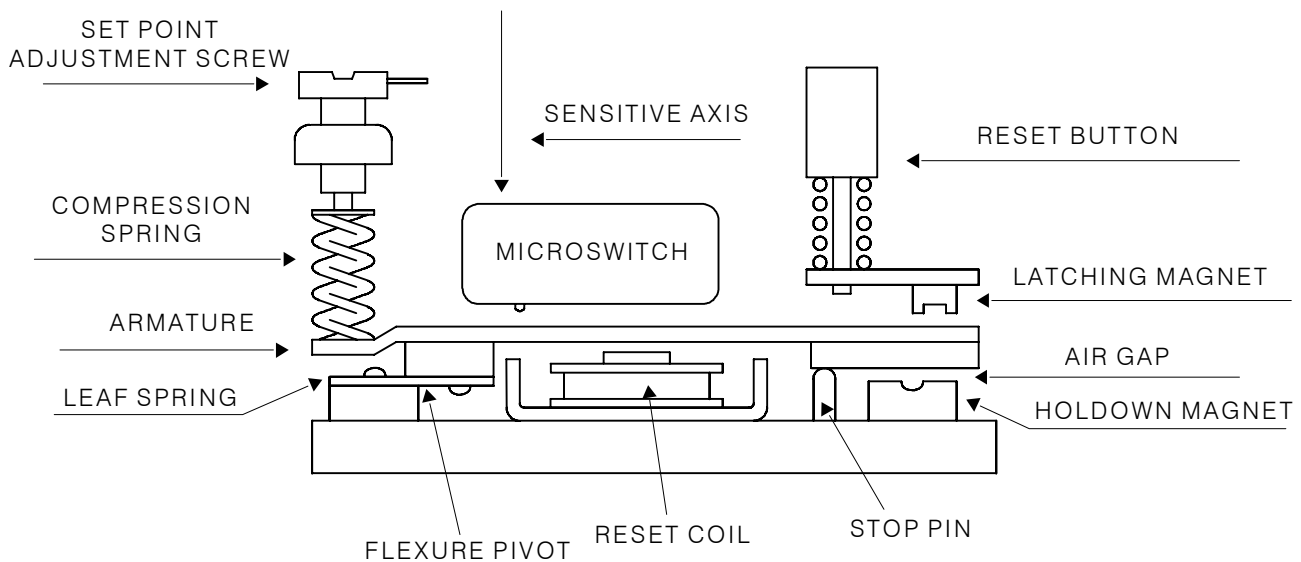

Figure 4-1 Operating Principle for the Vibraswitch, Model 366G.
The Vibraswitch, Model EURO 366G (Refer to Figure 4-1), is sensitive to vibration in a direction (the sensitive axis) perpendicular to its mounting base. It contains a vibration detecting mechanism, which also functions as a “mechanical amplifier”, to activate a snap-action switch when the selected level of vibration is exceeded and the detecting mechanism “trips”.
With the equipment on which the Vibraswitch is mounted not operating, back off the Setpoint adjusting screw counterclockwise (CCW) two turns and press the reset button. Then turn the Setpoint adjusting screw slowly clockwise until actuation occurs (the armature assembly is against the latch magnet, Figure 4-1). This is the zero vibration point, or actuating point, with the machine not operating. A mark should be made with a lead pencil or other convenient means to permanently record this “zero vibration point”. Subsequent measurements are made relative to this point.
Vibraswitches do not normally require any maintenance or repair, however, listed below are some of the possible malfunctions that may occur and their recommended solutions (Ref. Figure 4-1). Perform all tests with field wiring disconnected.
a. Functional Test - (Ref. Figure 4-1)
2. Broken leaf spring - (Ref. Figure 4-1).
Defective or improperly adjusted switch - (Ref. Figure 4-1).